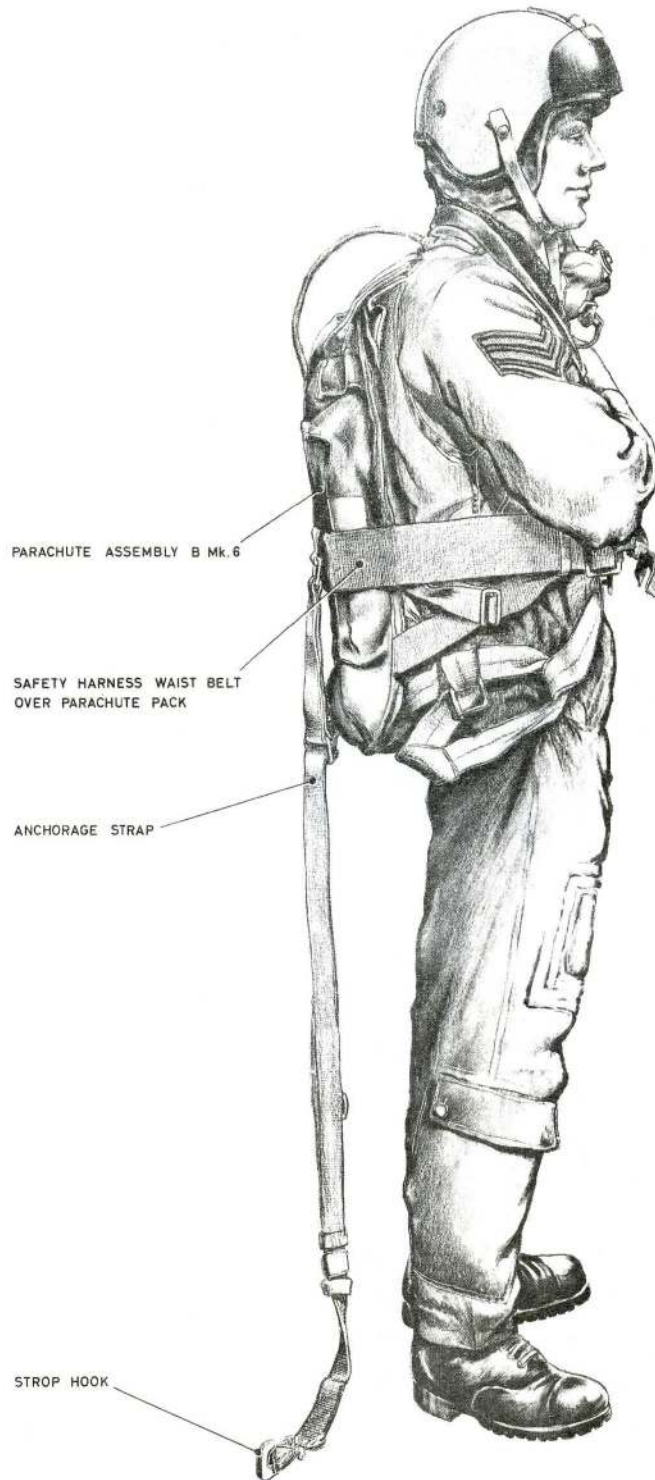

Fig. 3. Despatcher equipped (1)
5. The despatcher's A.E.A. (*fig. 3 and 4*) is fitted in one stage only since the B Mk. 6 parachute assembly is worn at all times. To fit the despatcher's A.E.A. proceed as follows.-